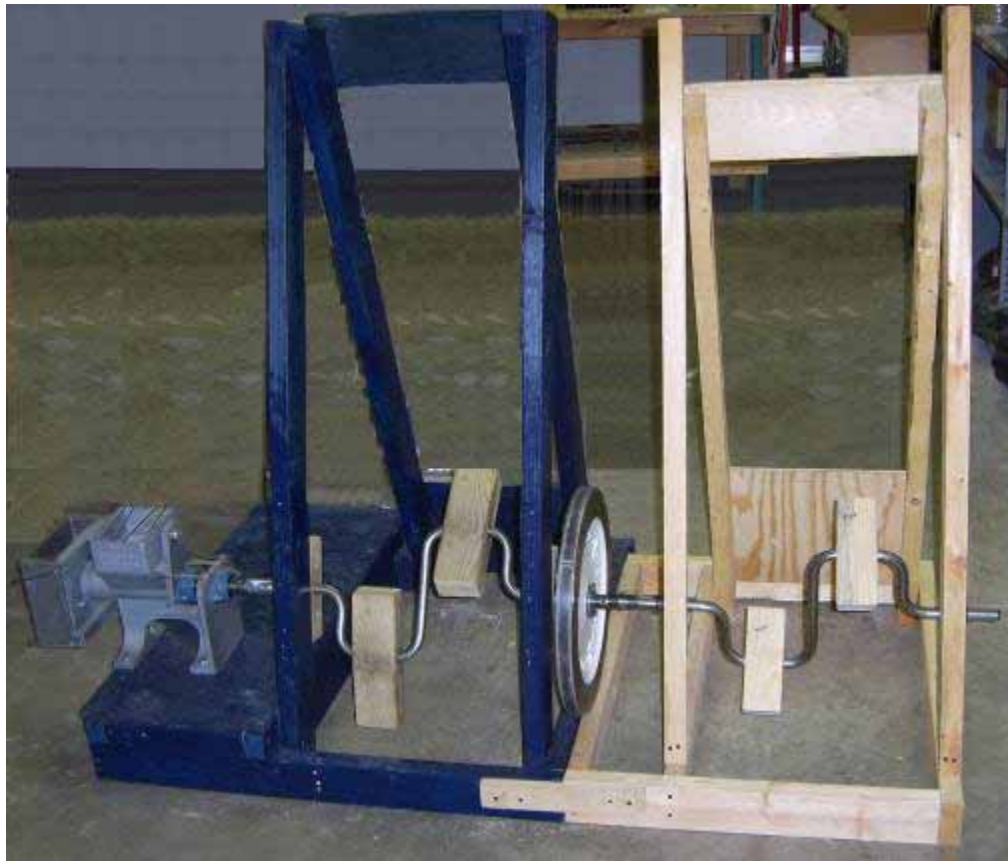

Figure 13: Two Pedal-Powered Devices Side-by-Side
3. Once you have assembled the second pedal-powered device frame, position it next to the first pedal-powered device frame (See Figure 13).
5. Once you have the two pedal-powered frames with the pedal shafts connected by the coupling, you must fix the two pedal-powered devices in place. You can use screws (or nails) to attach a length of wood to hold the two devices together (See Figure 13). Or, if your frames are made from metal, you may want to weld a piece of metal to the two frames to hold them together.